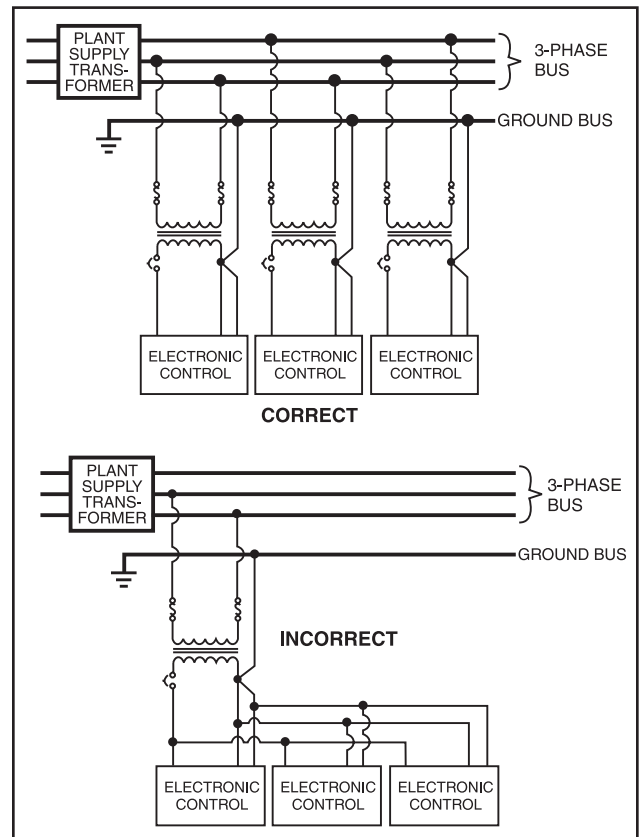

Figure 10 - Electronic Control Panel Power Supplies
**NEVER DAISY-CHAIN OR PARALLEL-CONNECT POWER OR GROUND WIRES TO ELECTRONIC CONTROL PANELS.** Each electronic control panel must have its own control power supply and ground wires back to the power source (Plant Transformer). Multiple electronic control panels on the same power wires create current surges in the supply wires, which may cause controller malfunctions. Daisy-chaining ground wires, taking them to ground at each device, allows ground loop currents to flow between electronic control panels which also causes malfunctions. See Figure 10.